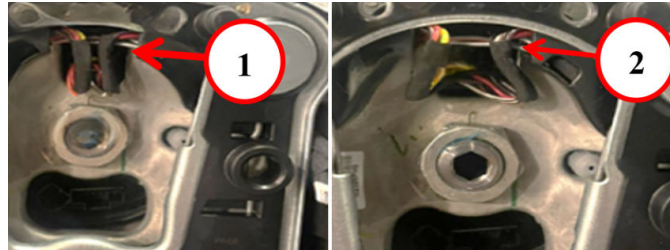

Fig. 1
5. Correct the position of the wire harness Fig. 1.